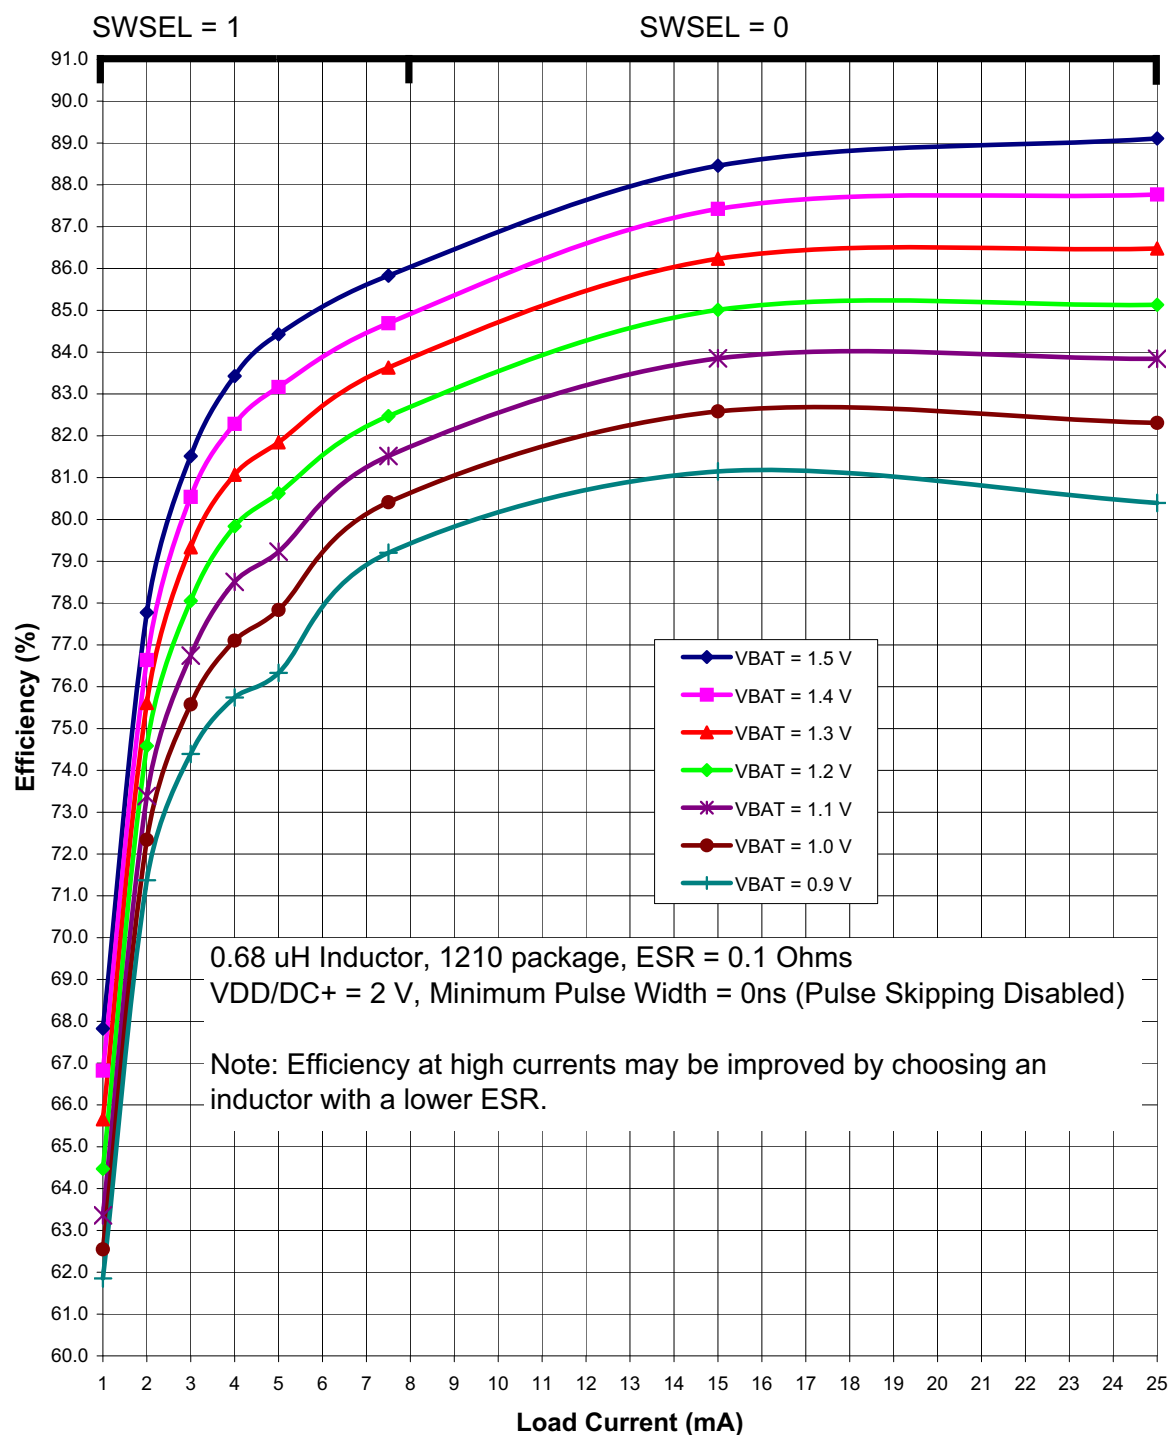
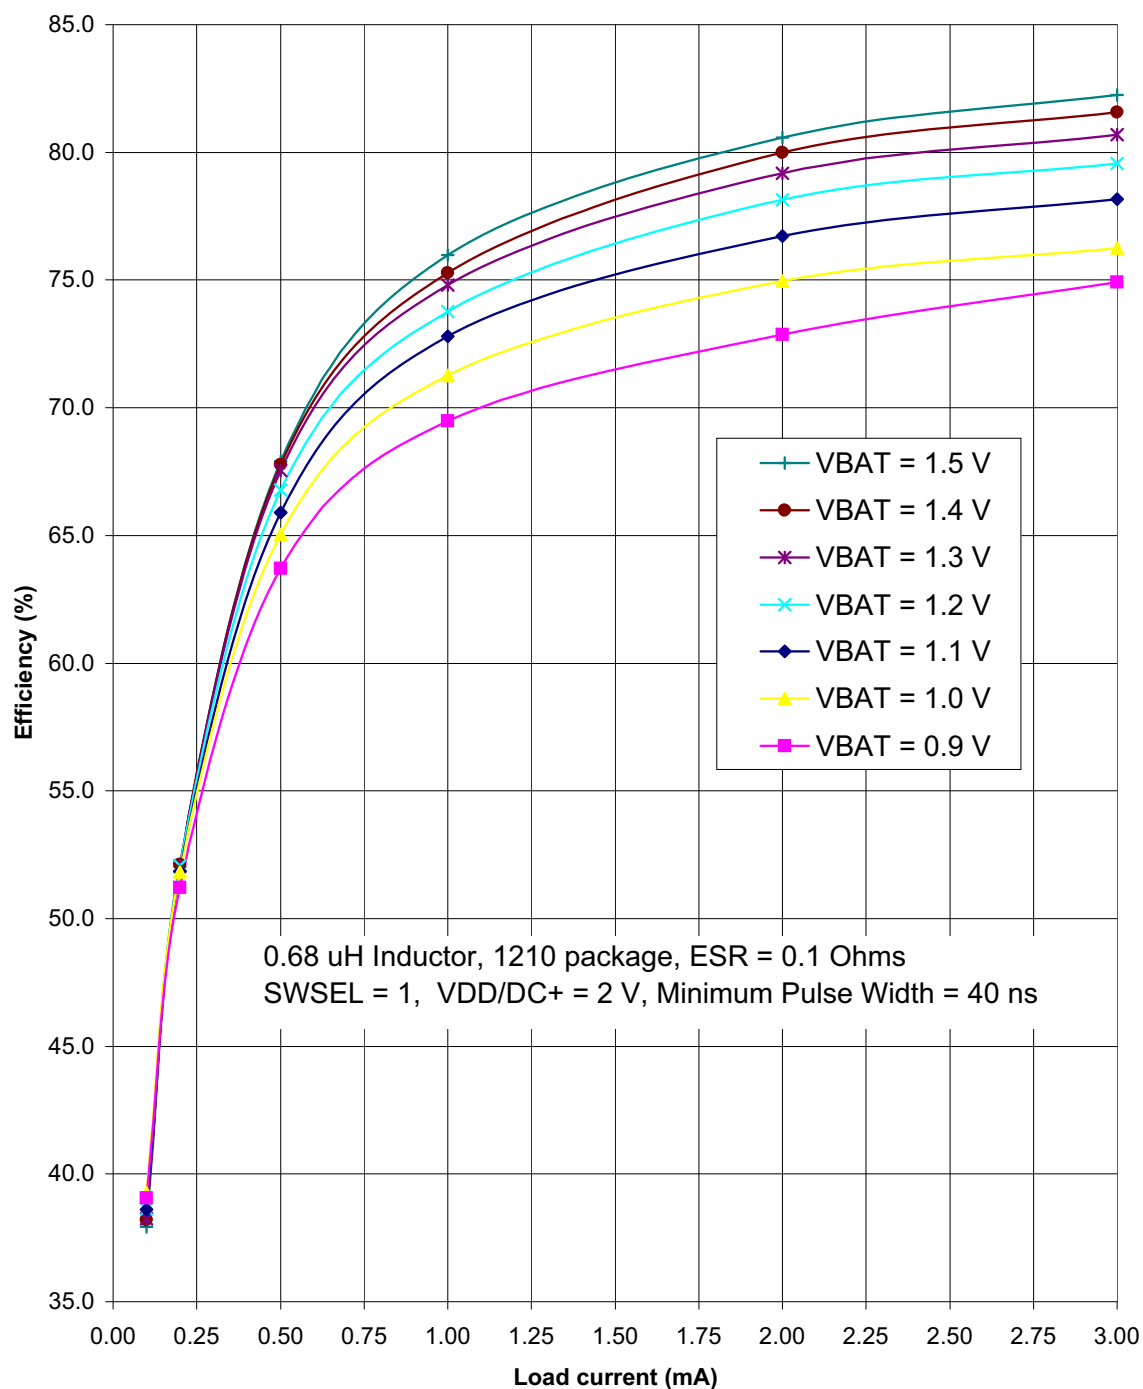

Figure 4.3. Typical DC-DC Converter Efficiency (High Current, VDD/DC+ = 2 V)
Figure 4.5. Typical DC-DC Converter Efficiency (Low Current, VDD/DC+ = 2 V)
The DC-DC Converter Efficiency can be estimated using Figure 4.3–Figure 4.5.
Notes: - Based on device characterization data; Not production tested. - SYSCLK must be at least 32 kHz to enable debugging. - Digital Supply Current depends upon the particular code being executed. The values in this table are obtained with the CPU executing an "sjmp \$" loop, which is the compiled form of a while(1) loop in C. One iteration requires 3 CPU clock cycles, and the Flash memory is read on each cycle. The supply current will vary slightly based on the physical location of the sjmp instruction and the number of Flash address lines that toggle as a result. In the worst case, current can increase by up to 30% if the sjmp loop straddles a 64-byte Flash address boundary (e.g., 0x007F to 0x0080). Real-world code with larger loops and longer linear sequences will have few transitions across the 64-byte address boundaries. - Includes oscillator and regulator supply current. - IDD can be estimated for frequencies ≤14 MHz by simply multiplying the frequency of interest by the frequency sensitivity number for that range, then adding an offset of 90 μA. When using these numbers to estimate I_{DD} for >14 MHz, the estimate should be the current at 25 MHz minus the difference in current indicated by the frequency sensitivity number. For example: V_{DD} = 3.0 V; F = 20 MHz, I_{DD} = 4 mA – (25 MHz – 20 MHz) × 0.102 mA/MHz = 3.5 mA assuming the same oscillator setting. - The supply current specifications in Table 4.2 are for two cell mode. The VBAT current in one-cell mode can be estimated using the following equation: $\text{VBAT Current (one-cell mode)} = \frac{\text{Supply Voltage} \times \text{Supply Current (two-cell mode)}}{\text{DC-DC Converter Efficiency} \times \text{VBAT Voltage}}$ The VBAT Voltage is the voltage at the VBAT pin, typically 0.9 to 1.8 V. The Supply Current (two-cell mode) is the data sheet specification for supply current. The Supply Voltage is the voltage at the VDD/DC+ pin, typically 1.8 to 3.3 V (default = 1.9 V). The DC-DC Converter Efficiency can be estimated using Figure 4.3–Figure 4.5. - Idle IDD can be estimated by taking the current at 25 MHz minus the difference in current indicated by the frequency sensitivity number. For example: V_{DD} = 3.0 V; F = 5 MHz, Idle I_{DD} = 2.1 mA – (25 MHz – 5 MHz) × 0.079 mA/MHz = 0.52 mA. - Internal LFO only available on 'F912 and 'F902 devices. - Ability to disable VBAT supply monitor only available on 'F912 and 'F902 devices.